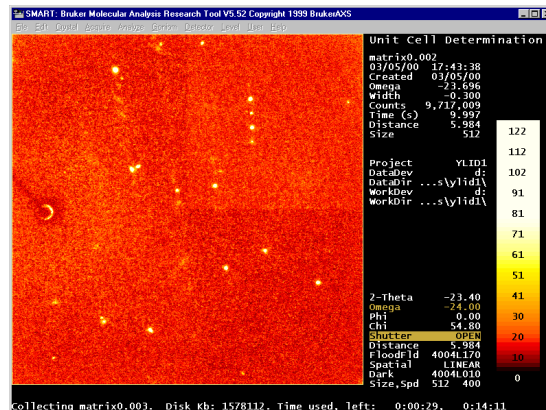

Figure 4-31. Frame collection (MATRIX0, MATRIX1, and MATRIX2)
3. Press OK (as these values are appropriate for this crystal). The program then collects three sets of 20 frames called MATRIX0, MATRIX1, and MATRIX2 (Figure 4-31).